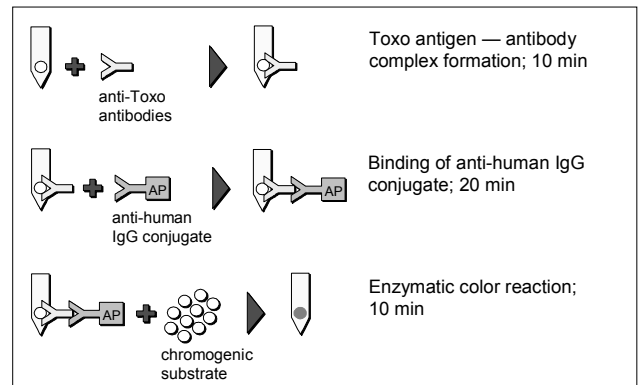

Figure 1. Principle of the Test
At the outset of the test, serum or plasma specimens are added to the diluent in the wells of row A of the Developing Plate. The Card is then inserted in the wells of row A. Antibodies against *T. gondii*, if present in the specimens, will specifically bind to the toxoplasma antigens on the lower spot on the teeth of the Card (Figure 1). Unbound components are washed away in row B. In row C, anti-Toxo IgG captured on the lower spots of the teeth, and the human immunoglobulin on the upper spots (Internal Control), will react with alkaline phosphatase (AP)-labeled anti-human IgG antibodies. In the next two rows, unbound components are removed by washing. In row F, the bound alkaline phosphatase will react with chromogenic components. The results are visible as gray-blue spots on the surface of the teeth of the Card.